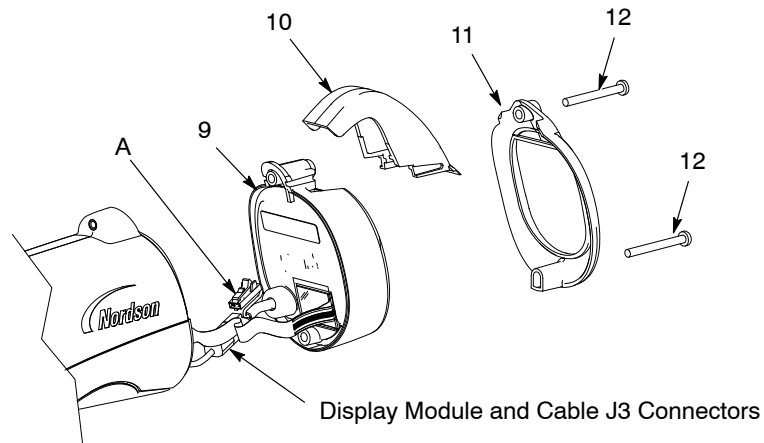

Figure 3 Display Module Removal
3. See Figure 3. Install the display module.
- b. Slide the hook (10) onto the display module, then install the bezel (11).
- c. Install and tighten the screws (12).
4. Install the electrode assembly (3) into the the end of the outlet tube at the front of the gun body. Make sure the wire electrode is not bent or broken.
5. Install the nozzle (2) on the electrode assembly, making sure the keys in the electrode assembly slide into the slots on the nozzle.
6. Install the nozzle nut (1) over the nozzle and rotate clockwise to secure.